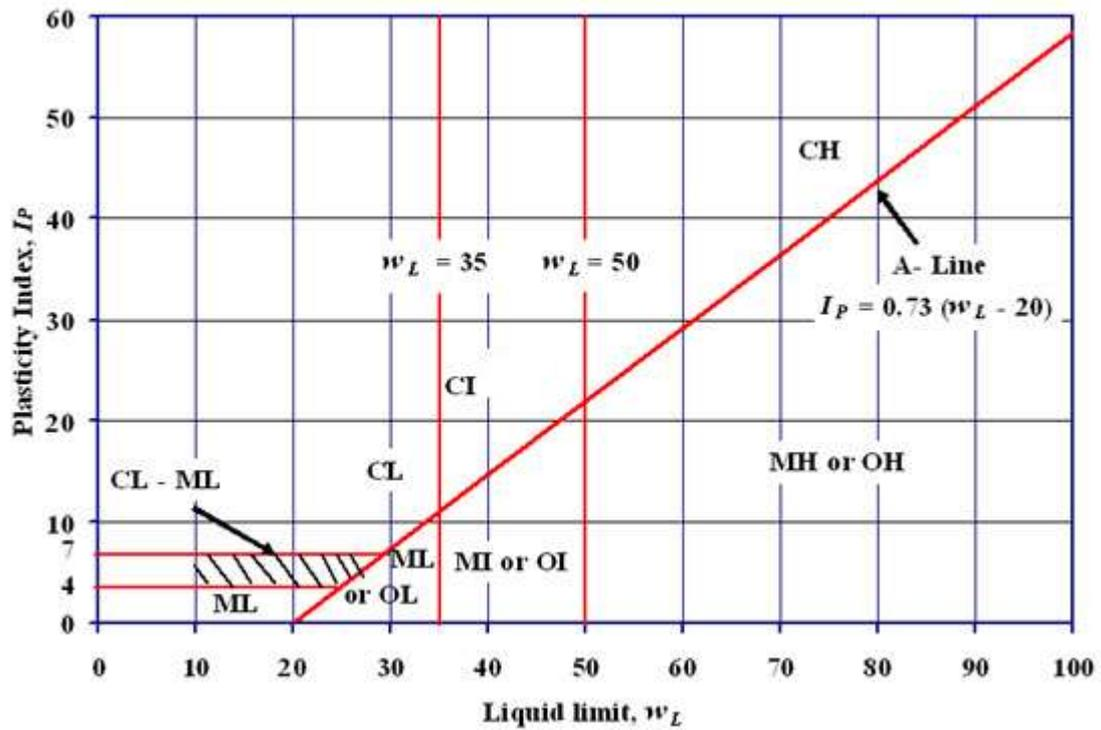

Figure 1: Plasticity chart as per Indian Standard Soil Classification System
- Q.2** (a) As per the Indian Standard soil classification system, a sample of silty clay with liquid limit of 75% and plasticity index of 45% is classified as? (Refer to Figure 1) **03**